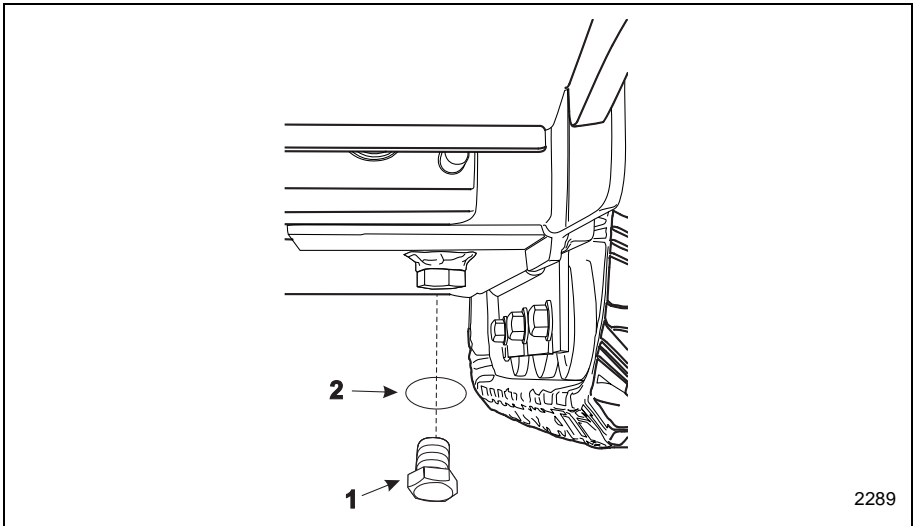

Figure 4-24 Hydraulic Tank Drain Plug
- b. Remove the hydraulic tank drain plug (Item 1, Figure 4-24) and drain all hydraulic fluid from the machine.
- NOTICE:** Make sure to inspect the O-ring (Item 2, Figure 4-24) on the drain plug. Replace the O-ring if any signs of damage are noted.